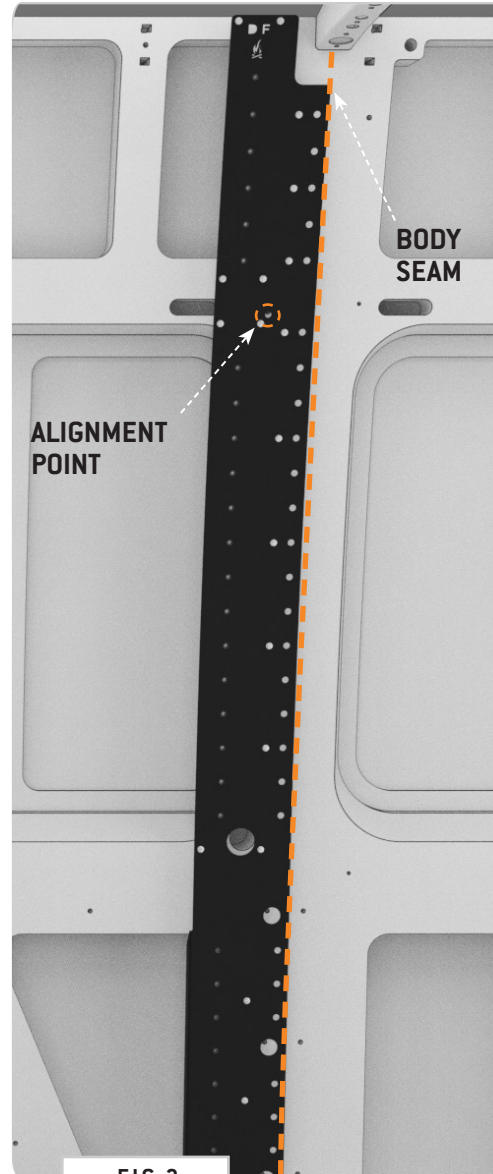

FIG 3
2.1 Align Driver Side Front Bracket: Align the **Driver Side Front Bracket** to the **Alignment Point** as shown in **FIG 3**. There should also be a **Body Seam** that you can use as a visual guide.